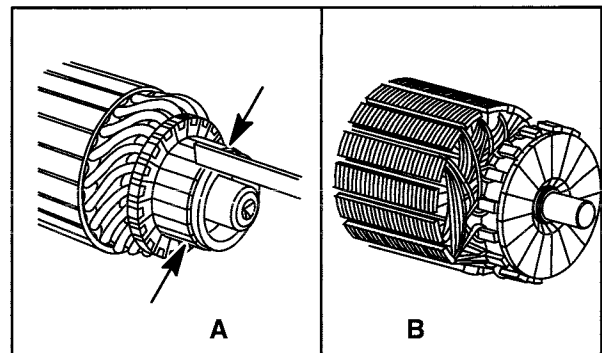

Fig. 16
The armature commutator shown in Fig. 16 (A) can be cleaned with fine sandpaper. DO NOT use emery cloth. The commutator can be machined a diameter of NO LESS THAN 1.230" (31.24 mm).
Slots between commutator bars should be cleaned as shown in Fig. 16 (A) after sanding or machining.
**NOTE:** The style armature commutator shown in Fig. 16 (B) cannot be machined.